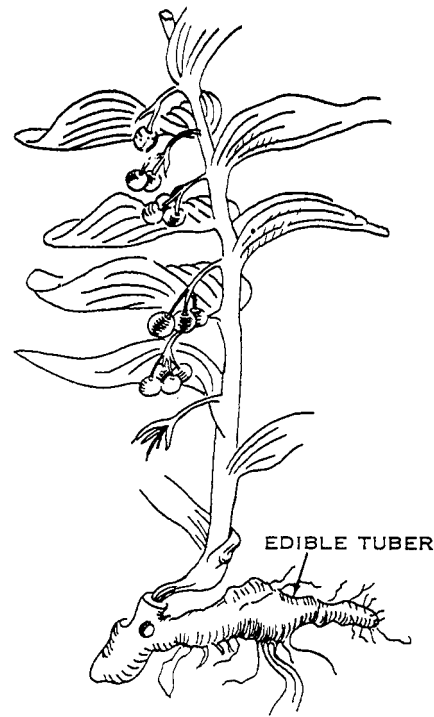

Figure 6-7.—Solomon's seal.
2. **SOLOMON'S SEAL.** Tubers of Solomon's seal grow on small plants and are found in North America, Europe, northern Asia, and Jamaica. Boiled or roasted, they taste much like parsnips (fig. 6-7).